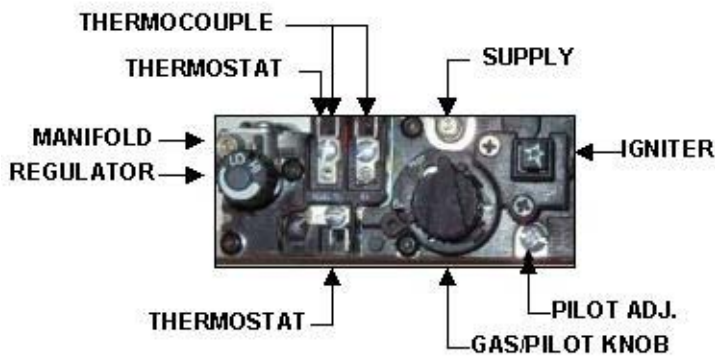

Figure 7: Pressure Test Port
* Manifold pressure must be taken at the outlet "manifold" tap and inlet pressure at "inlet" tap with the burner operating by a qualified installer (see Figure 7: Pressure Test Port).